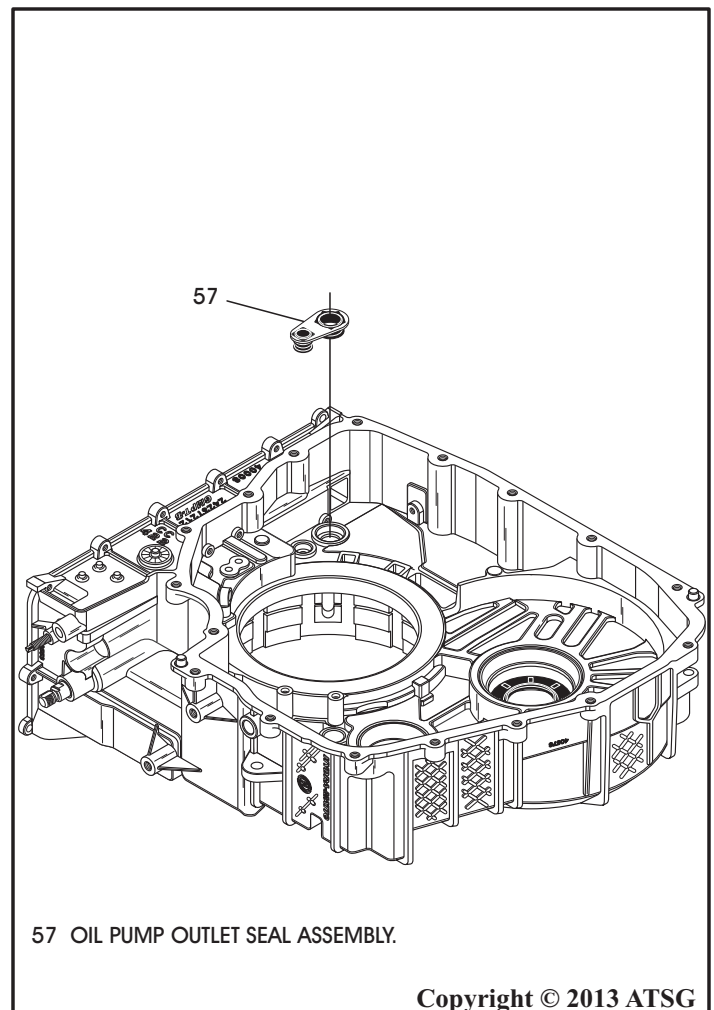

Figure 72
61. Remove and discard the oil pump outlet seal from the case, as shown in Figure 72.